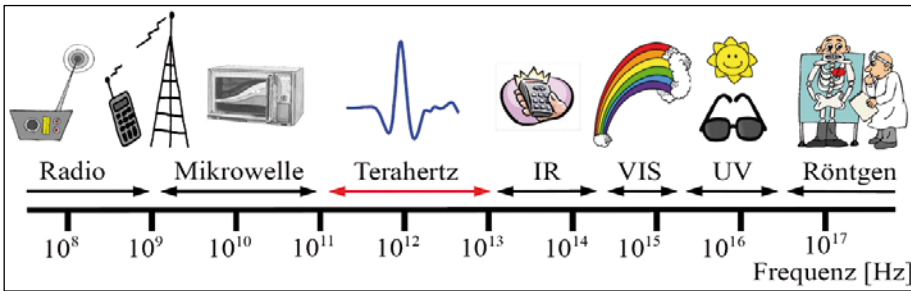

Fig. 1: Wave spectrum
The combined determination of all beam propagation parameters is usually performed by recording the free-space propagation of the beam widths at several planes transversal to the direction of the laser beam propagation, and in the two directions (x and y) for elliptic beams (fig. 1). As the numeric estimation of the beam width is carried out by parabolic fit of the beam's power density, the measurement of the beam propagation factor  $M^2$  is very sensible to the width measurement errors, so that numerous planes are required to obtain a reliable  $M^2$  value. According to the ISO 11146, the measurements of the beam's power density must be carried out at least at five planes within one Rayleigh distance from the beam waist, and at five other planes within the distance twice the Rayleigh distance,  $ZR = \pi w_0^2/\lambda$ , where  $w_0$  is the beam waist, and  $\lambda$ , the wavelength.
**Fig. 1: Wavefront analysis of a laser beam ( $\lambda = 633 \text{ nm}$ ) in one plane allows to predict the beams behavior near focus and compute the position and width of the laser beam waist, and laser beams divergence**